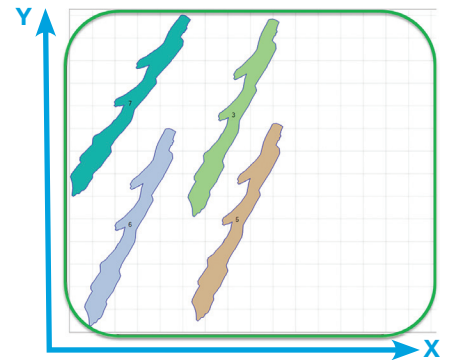

Figure 6: On the Fortus 400mc or 900mc, a pack of multiple parts is staggered and oriented along the y-axis to maximize airflow.
- Multiple Parts - Stagger the parts along the Y-axis to minimize airflow blockage when building multi-part packs (Figure 6).